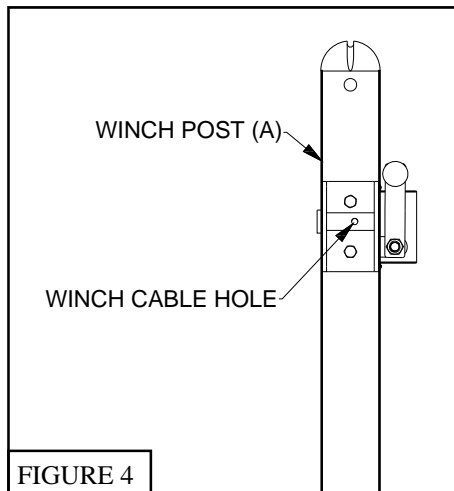

FIGURE 4
7. Cut off loop and remove 12" of nylon cable coating from the top net cable, insert cable into the winch cable hole on the *Winch Post* (A). Crank cable until you achieve 34" at the center of *PK10NXL Pickleball Net* (D). See Figure 4.